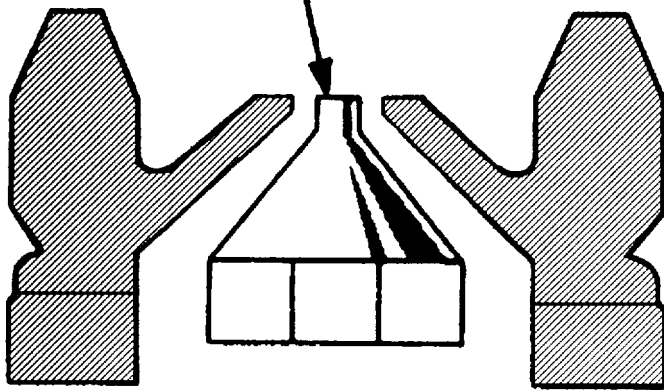

Figure 1-18.—Pressure-feed air cap.
- **Pressure-feed gun:** A pressure-feed gun operates by air pressure. The air pressure forces the fluid from the container into the gun. This type of gun, with a pressure-feed air cap, is used for large-scale painting. See figure 1-18.